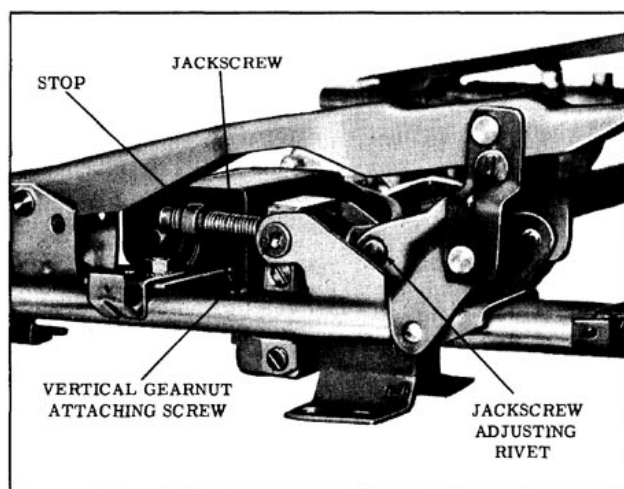

Fig. 16-105 Bucket Seat Adjuster (Outboard)
3. Using a clutch-type screwdriver or other suitable tool, remove shoulder screws securing linkage to vertical gearnut. (Fig. 16-105)
4. Remove jackscrew down-stop from jackscrew. (Fig. 16-105)
3. As a bench operation, remove jackscrew-to-adjuster linkage attaching rivet and remove jackscrew from adjuster assembly. (Fig. 16-105)